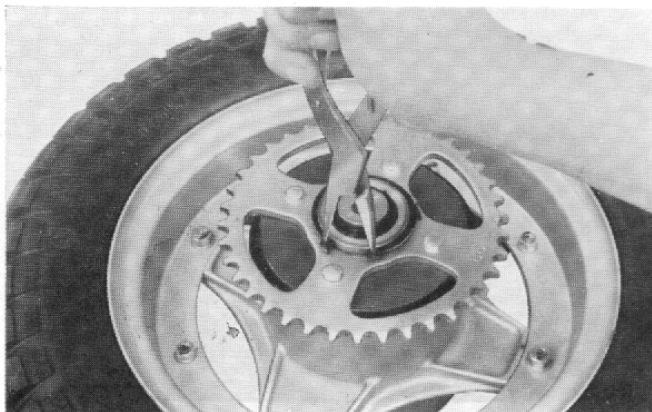

Fig. 85
- (6) Remove the snap ring with a snap ring plier to separate the driven sprocket from the hub. (Fig. 85)